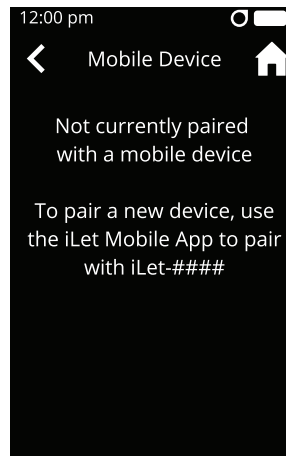

Figure 95
- Open the iLet Mobile App on your compatible device (see Figure 95).